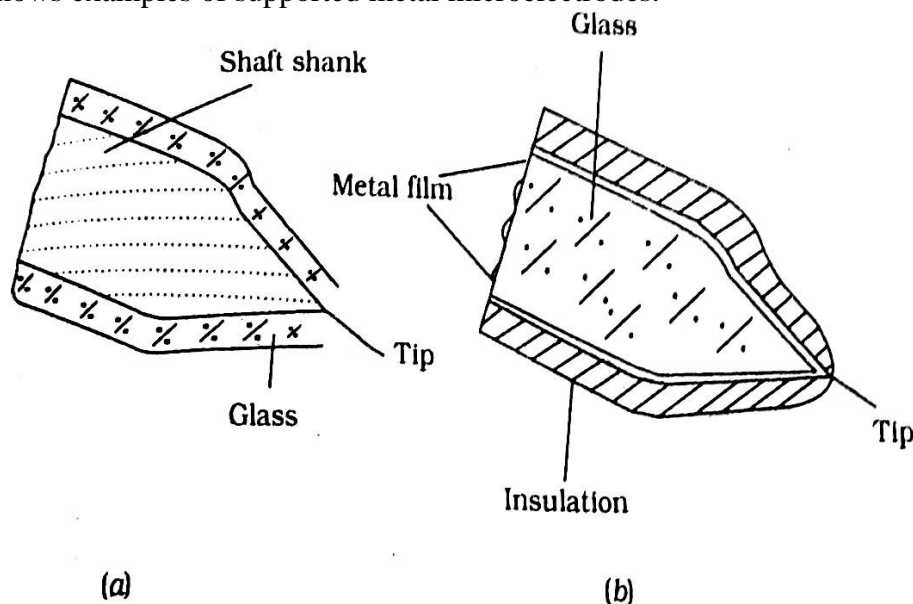

Figure 8: Structure of two supported metal microelectrode, (a) Metal filled glass micropipette. (b) Glass micropipette coated with metal film.
- Figure 8 shows examples of supported metal microelectrodes.
- Figure 8 (b) shows the cross-section of the tip of a deposited metal-film microelectrode.